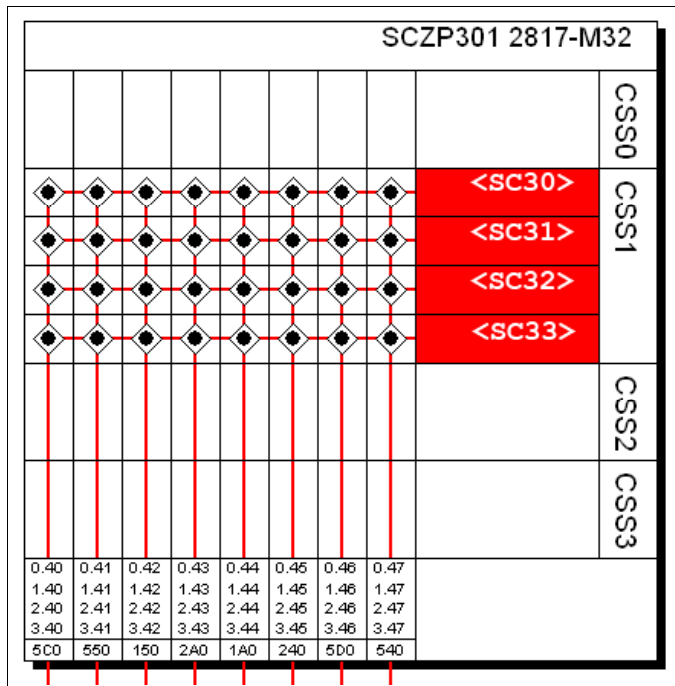

Figure 7-14 HCM Processor display
3. Double-click the required processor in the list (SCZP301). See Figure 7-14.